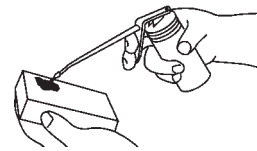

Figure 22
5. Saturate the air filter with *SAE 30W* oil (Fig. 22).